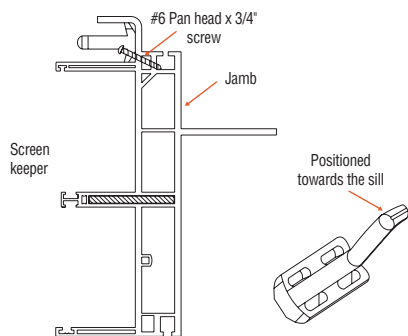

fig. 27
- Fasten the keeper to the frame as shown on fig. 27.